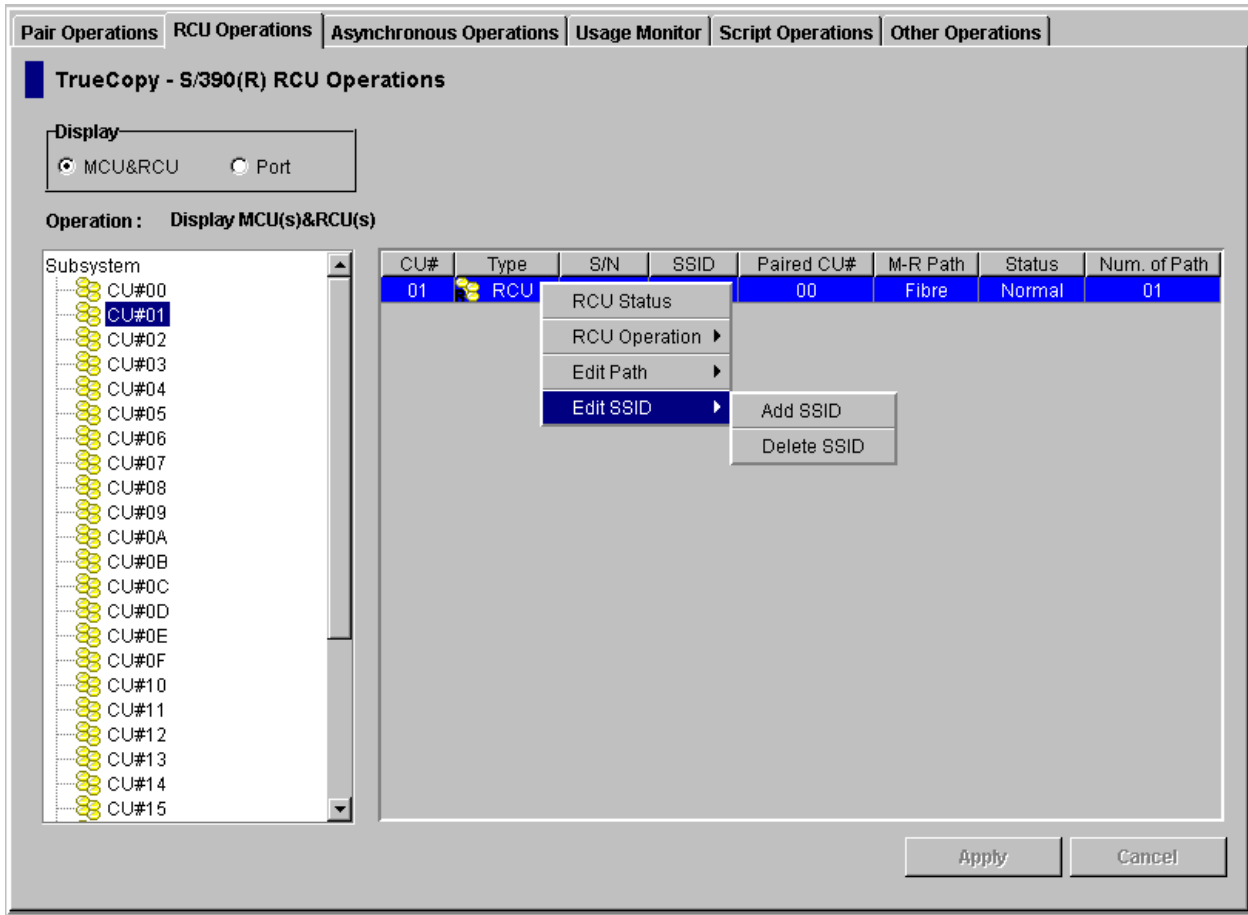

Figure 4.23 Opening the Add SSID Panel
3. Right-click on the RCU, select **Edit Path**, and then select **Add Path** to open the Add Path panel (see Figure 4.23).